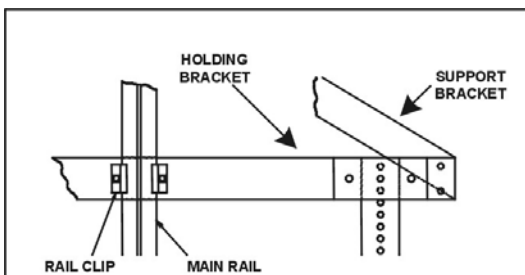

Figure 1-21
- With the tape hanging motionless secure it to the top bracket. [See Figure 1-21.]